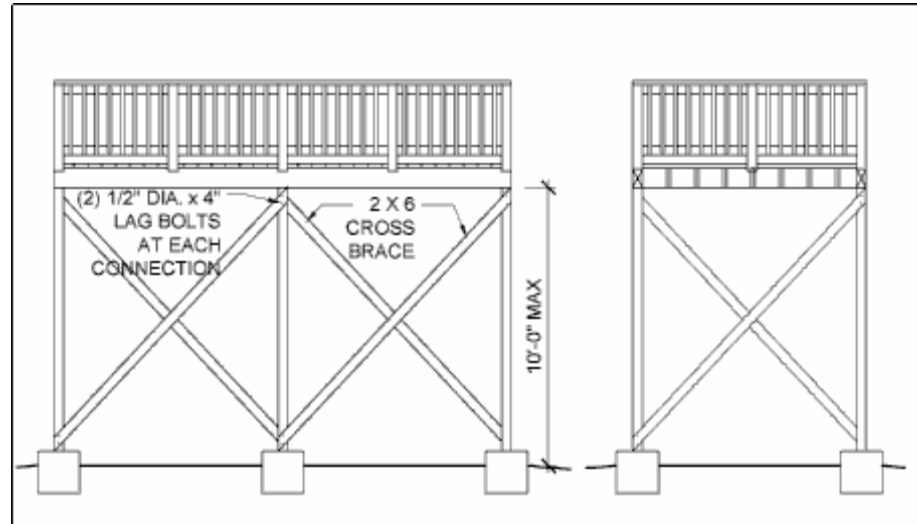
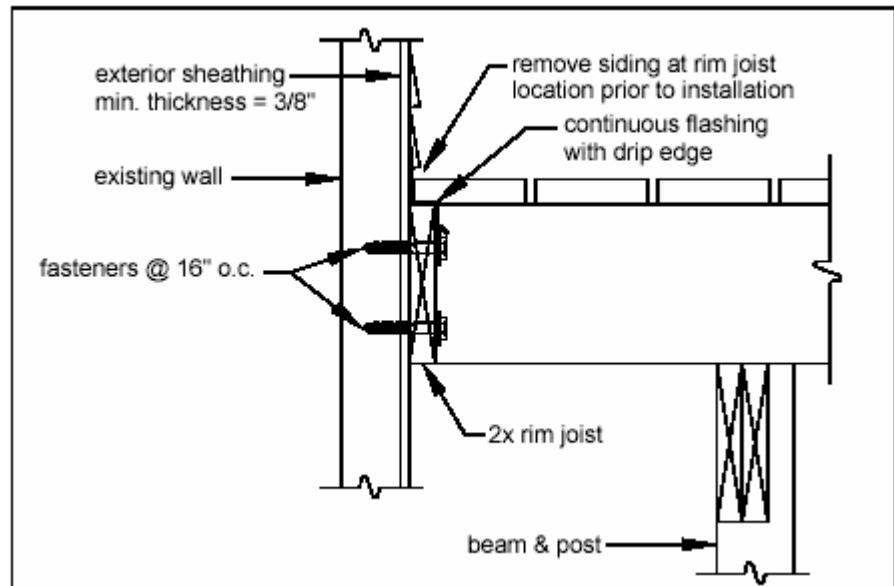

Figure 14 - Diagonal Bracing Requirements
Figure 15 - Attachment to House Lateral Support
8. See Figures 15 to 34 for bracing, connection, built-up beam, footing, guardrail, and stairway details.
Bracing: Provide diagonal cross bracing as shown in Figure 14. Bracing shall be located between posts parallel to beams and bolted by a minimum of two 1/2" diameter by 6" lag bolts or two 1/2" thru-bolts at each end to the posts as shown. Diagonal bracing shall also be located perpendicular to beams, and in such cases, bracing shall be bolted to the post and joist above the post location. If the deck is free-standing, diagonal bracing must be provided on all the posts and in both directions.
Lateral support is provided for one-half of the deck by the attachment of the deck rim joist to the existing house as shown in Figure 15 (the beams and posts furthest from the house still require the diagonal bracing as shown in Figure 14). The existing exterior wall must have sheathing consisting of structural wood panels with a minimum thickness of 3/8", and the fasteners shall attach to an existing band board or wall stud. The deck rim joist may also attach to a concrete wall, but not to a brick veneer.